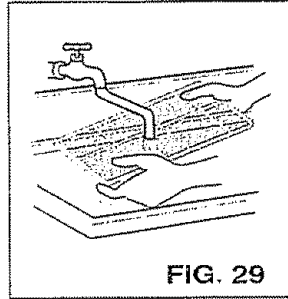

FIG. 29
- Wash the Air Filter under the faucet with warm water. Be sure to shake off all the water before replacing the filter. (FIG 29)